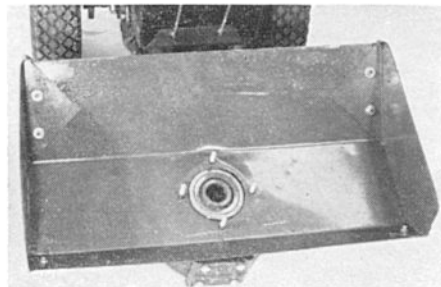

Figure 28
4. Fit the Hood as shown in Figure 28. Insert the Cultivator Drive Shaft into the Gear Housing.